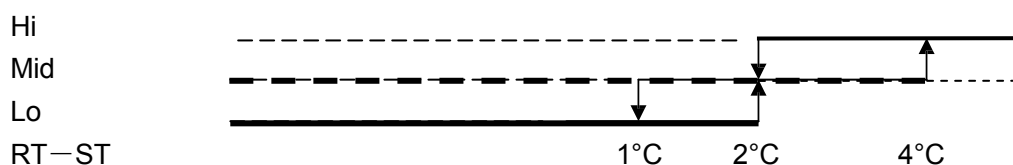

Figure 1 Cooling automatic airflow
b. Indoor fan motor automatic airflow speed control, it works as shown in Figure 1: